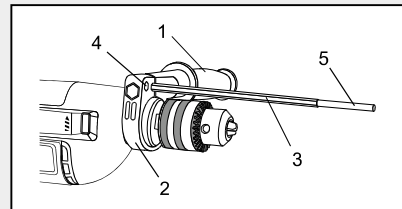

Fig. 6
1. Turn the auxiliary handle (1) counter clockwise to open mounting collar (2) (Fig. 6).
2. Insert hexagonal end of depth rod (3) into the matching hole in the auxiliary handle mounting collar (4).